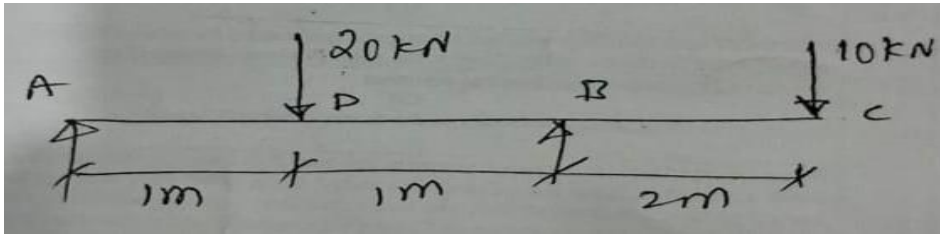

Fig. Q4(b)
- b. Draw the shear force and bending moment diagram for the beam shown in Fig. Q4 (b) locating the point of contra-flexure if any. 12 (2:2:1.3.1)